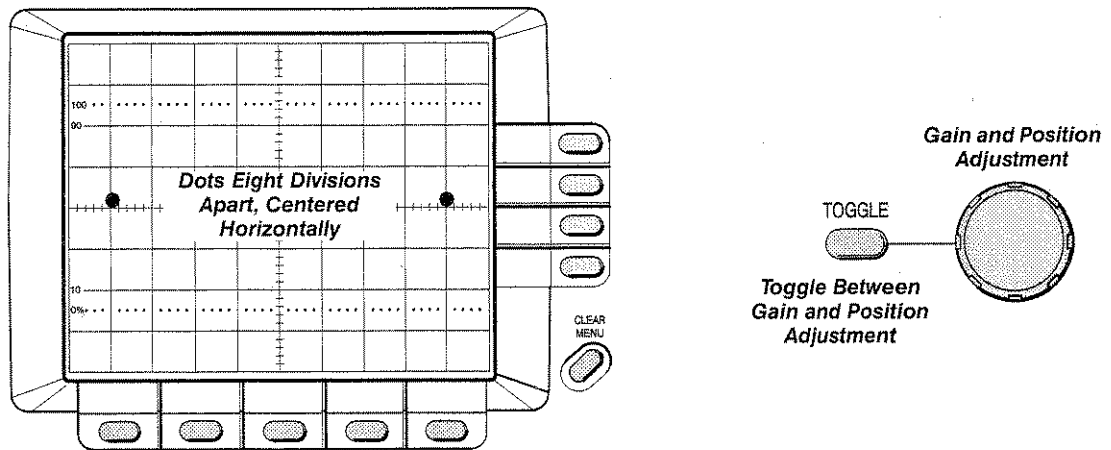

Figure 6-3: Horizontal Adjustments (One)
4. Use a combination of the **TOGGLE** button and the General Purpose Knob to position the two dots eight divisions apart, centered horizontally (see Figure 6-3).
6. Again, use a combination of the **TOGGLE** button and the General Purpose Knob to position the two dots eight divisions apart, centered horizontally (see Figure 6-3).